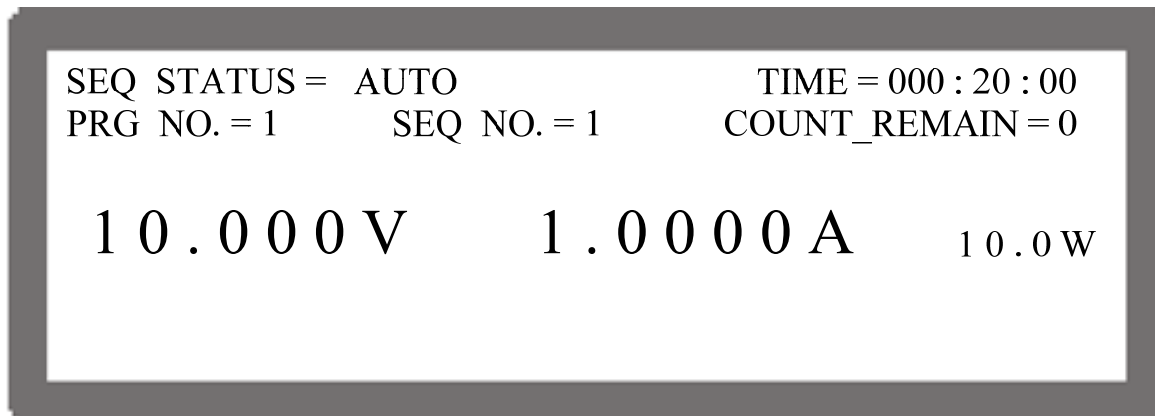

Figure 4-16
2. Press “**OUTPUT**” again to confirm the execution and go to MAIN PAGE as Figure 4-16 shows. To quit the execution, press “**EXIT**” will return to the standby MAIN PAGE.